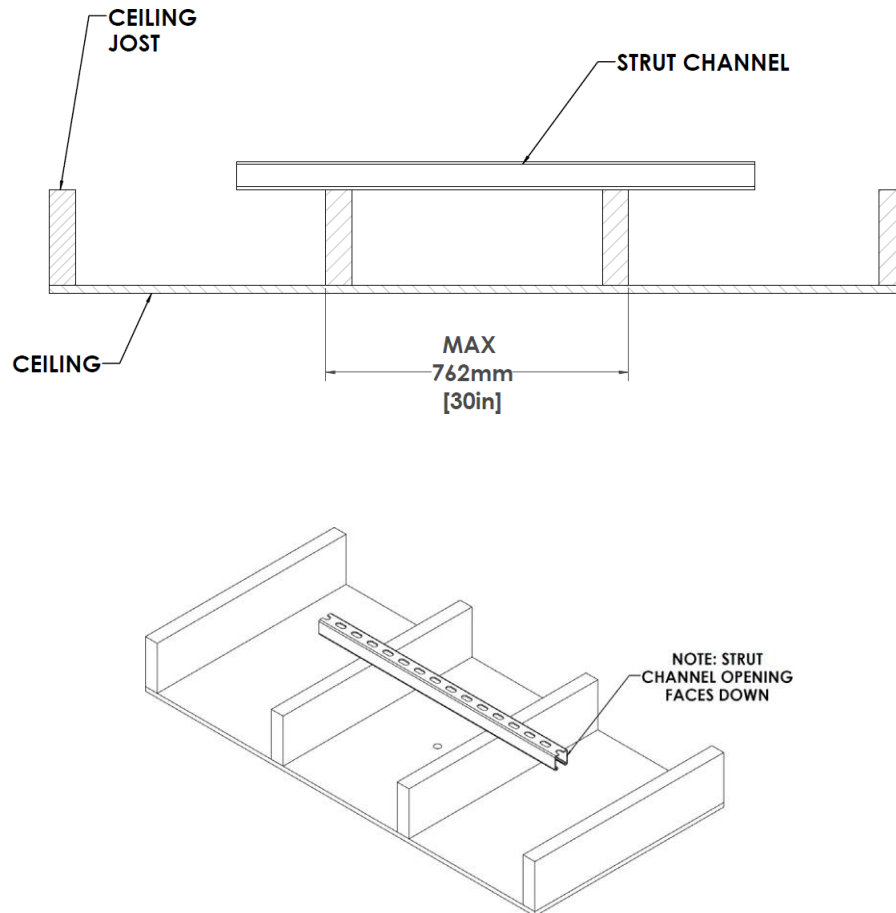

Figure 138: **Strut Spanning Two Ceiling Joists**
3. Directly above each ceiling bracket hole, place strut open channel-side down so it spans two ceiling joists as shown in Figure 138.